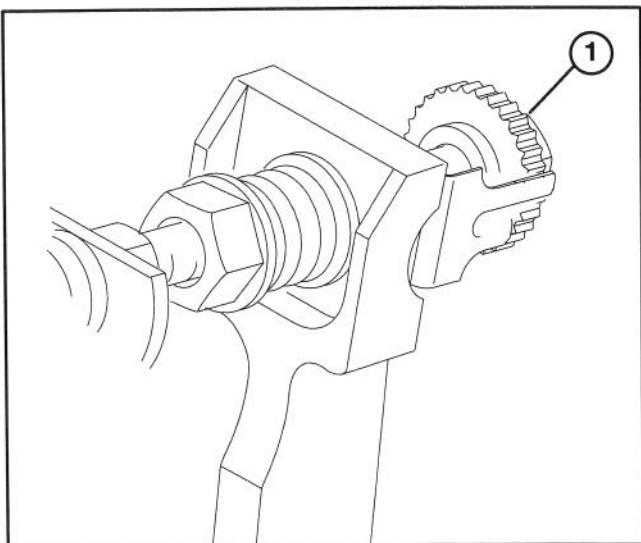

Figure 1
1. A 19 mm (3/4 inch) wrench will be needed to rotate bedknife adjustment knob. Each notch on the knob will move the bedknife .0005 inches (.013 mm) (Fig. 1).